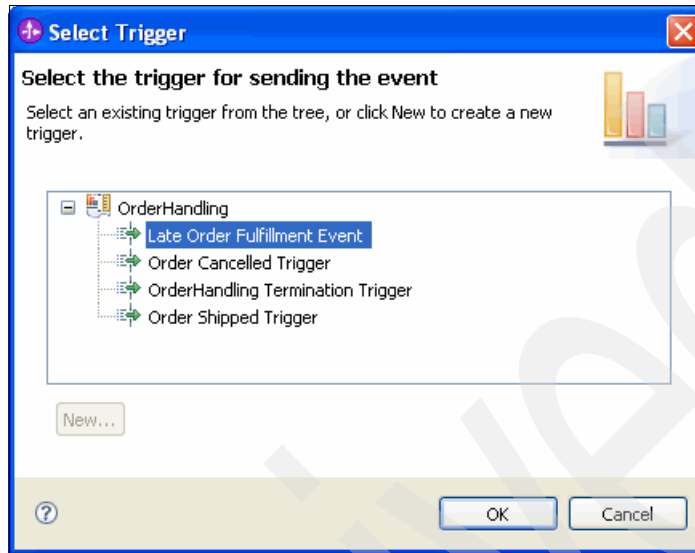

Figure 8-92 Selecting the trigger for the outbound event
- d. In the Select Trigger window (Figure 8-92), select **Late Order Fulfillment Event** and click **OK**.